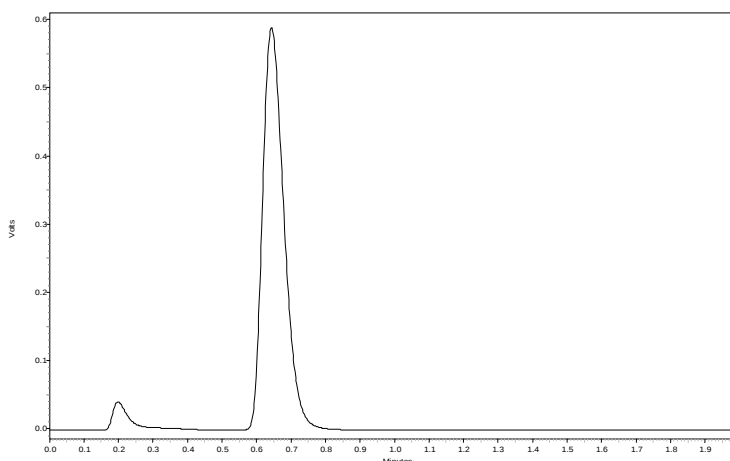

Figure 4-2: Typical Chromatogram for Caffeine Standard (5 μg on Column)
- g) Inject a 10 μL sample of 500 $\mu\text{g/mL}$ caffeine solution. The chromatogram generated should be similar to that presented in Figure 4-2. (Caffeine's retention time should be approximately 0.6-0.7 min; typical peak area should be approximately 2,500,000 units, $\pm 20\%$).